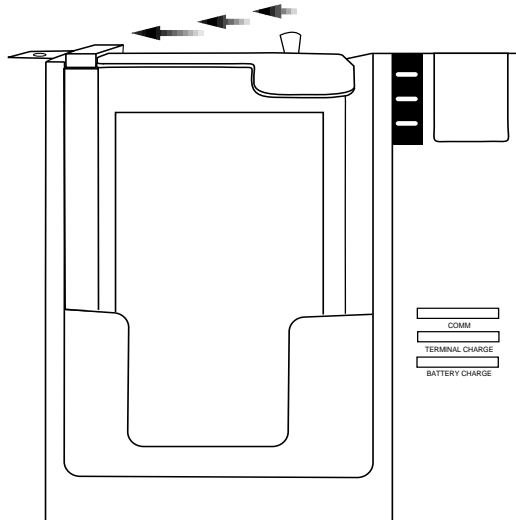

Figure 3-8. Sliding the Locking Mechanism into Place
2. Slide the locking mechanism into the slot, as shown in figure 3-8.